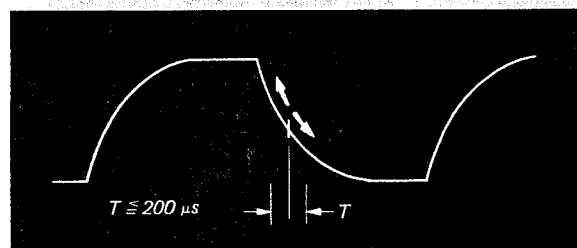

Fig. 7-8.
2. Adjust R452 for minimum hunting (less than 200 μ s). See Fig. 7-8.